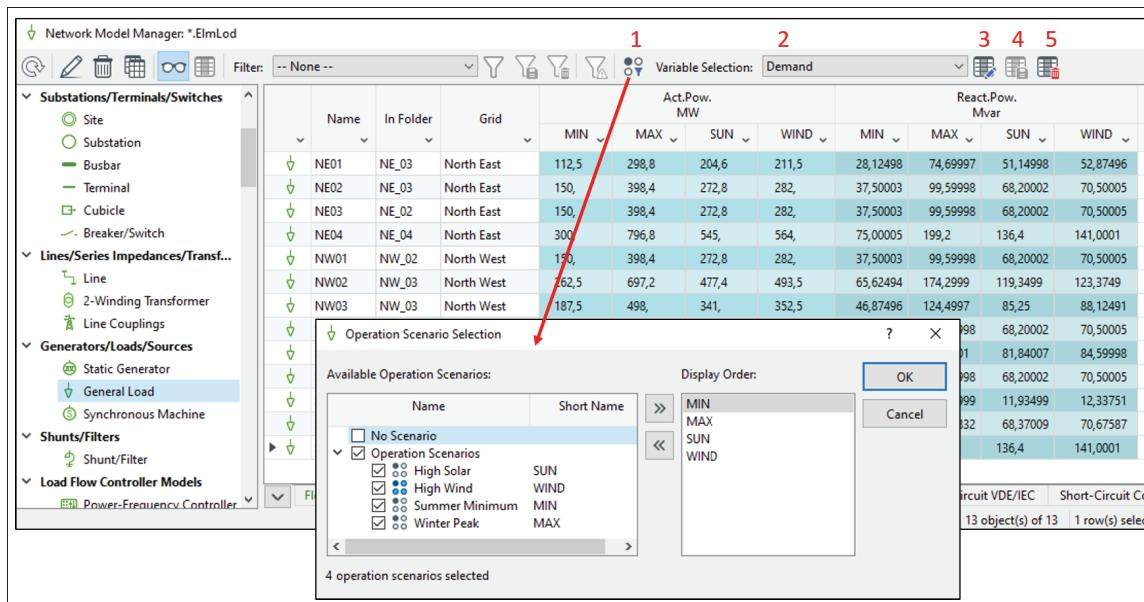
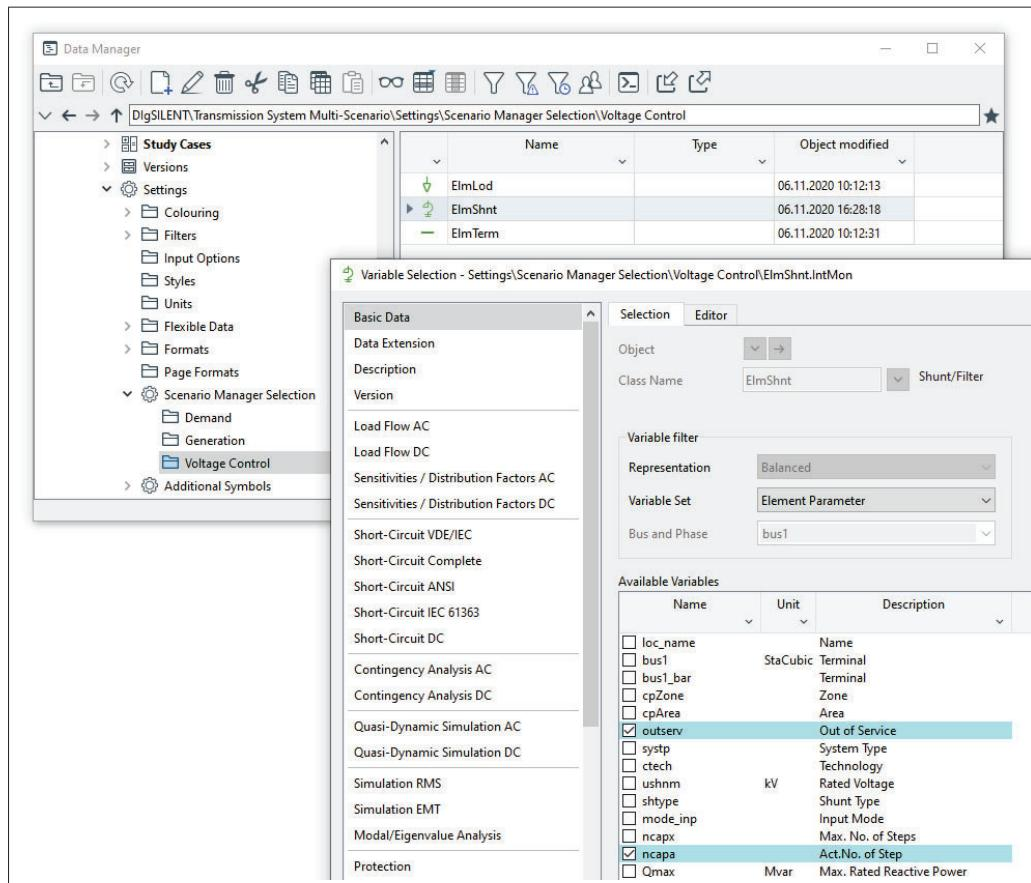

Figure 16.4.1: The Operation Scenario Manager
Figure 16.4.3: Variable Selection configurations for the Operation Scenario Manager
- Element Parameter:** Selection of this option will display all the available variables for the respective element. This includes both operational variables (variables which are stored in operation scenarios) and non-operational variables (variables which are not stored in operation scenarios). If non-operational variables are selected, then the operation scenario manager will display an additional column for each selected variable with the column header *Flexible Data* assigned as highlighted in figure 16.4.3.
The user can set up a number of variable selection configurations, and these are stored within the project Settings folder. Within this folder, there is a *Scenario Manager Selection Set*, and this can contain any number of folders, each of which will then have one or more *.IntMon variable definitions, as shown in Figure 16.4.3 below. It is these folders which are the named configurations that are selected via the drop-down menu seen in Figure 16.4.1 (2).